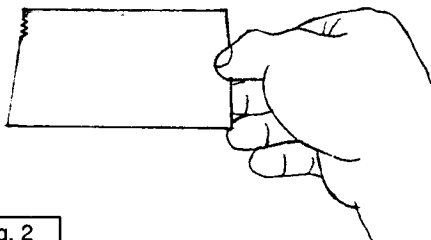

Fig. 2
2. Hold a sheet of film with the emulsion side up and the notch at the upper left corner as shown in Fig. 2.